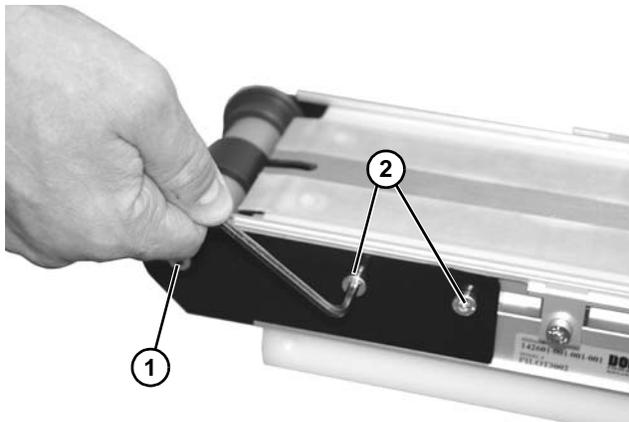

Figure 46
1. On one side of conveyor, remove one (1) fastening screw (Figure 46, item 1).
2. On the same side of conveyor, remove two (2) fastening screws (Figure 46, item 2).